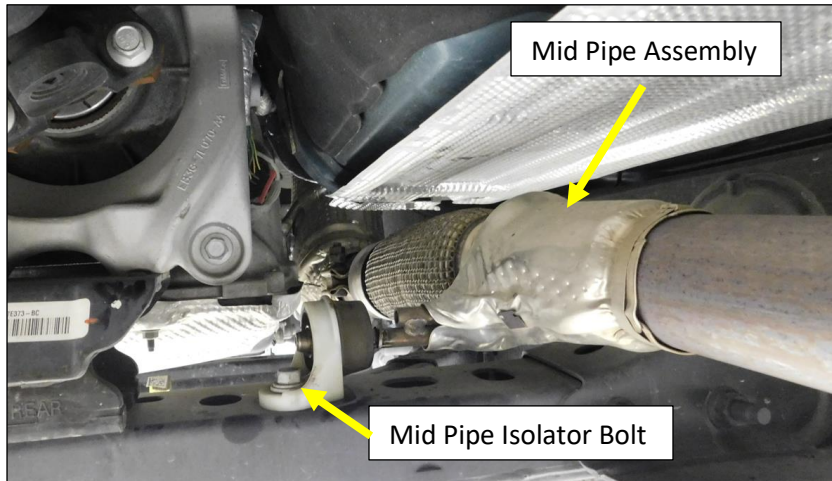

Figure 3
9. Remove the 13mm bolt at the mid-pipe hanger isolator assembly on the crossmember. **Fig.3**